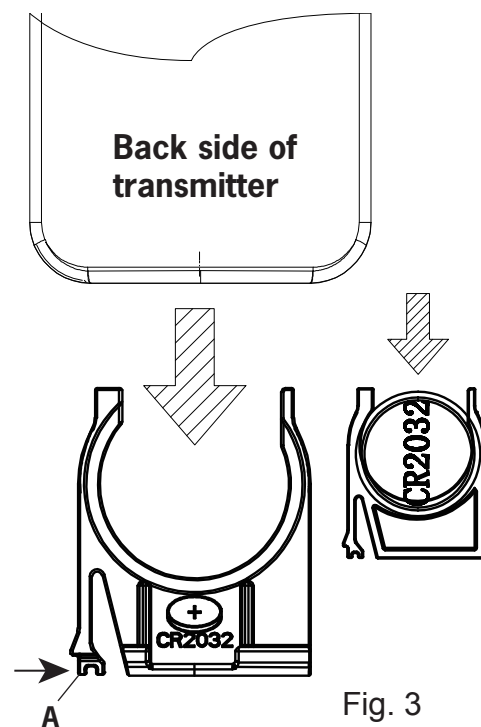

Fig. 3
1. Remove the battery seat from the bottom of remote control transmitter and install battery. Replace the battery seat. (Fig. 3)
Remove battery seat by pushing at "A" position as shown in Fig. 3 toward to right hand side and pull it out. Install CR2032 battery into battery seat (**make sure the side with "+" is upward**) and reinstall the battery seat.